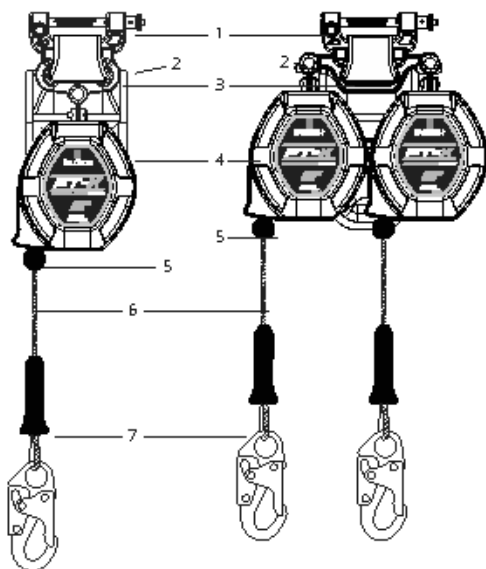

Figure 2 - About the FT-X Cable Class 2 Leading Edge SRL-P
As shown in Figure 2 below, the FT-X Cable has a nylon housing that contains a galvanized wire rope (cable) lifeline wound onto a spring tensioned drum. The FT-X Cable lifeline is equipped with a lifeline stop and a leg-end connector. When the user is attached, the lifeline extends and retracts with the user movement, automatically maintaining taut lifeline. If a fall occurs, a centrifugal pawl system engages, stopping the lifeline payout. In a fall event, the SRL-FBH Connector will break away from the Shear Connector, and the integral Energy Absorber (EA) will deploy, gradually slowing and arresting the fall.